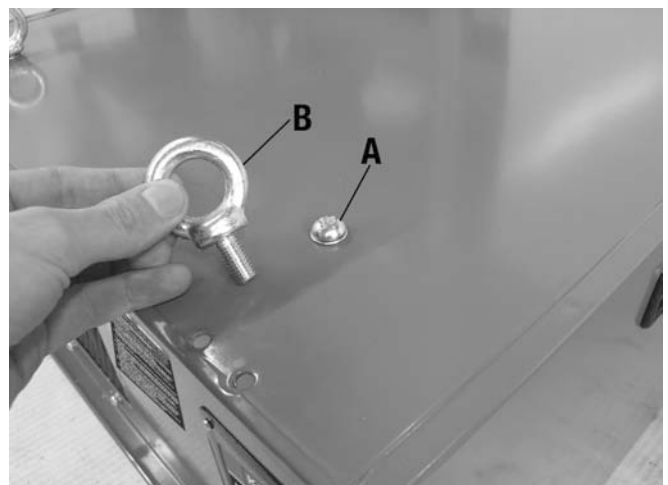

FIGURE 5
- 1) This air cleaner can be hung from the ceiling. Remove the four large pan head screws (A) Fig.5 from the top of the air cleaner housing using a Philips screwdriver.
- 2) Install the four air cleaner eye bolts (B) Fig.5 to the top of the air cleaner housing.